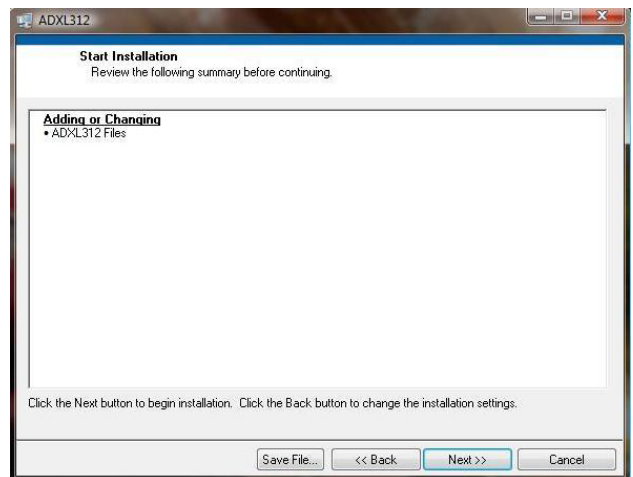

Figure 14. Start Installation (Listing Varies Based on PC Requirements)
3. Read the **National Instruments Software License Agreement**. Choose **I accept the License Agreement(s)**, and then click **Next >>**. The installer then lists the required components to be installed on the PC (see Figure 14).